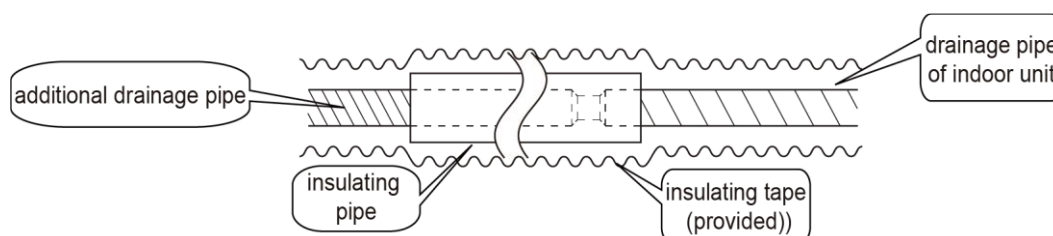

Fig 9.3.1
(1) The drainage pipe should be short and the gradient downwards should be at least 1%~2% in order to drain condensation water smoothly.
(2) The diameter of drainage hose should be bigger or equal to the diameter of drainage pipe joint.
(3) Install drainage pipe according to the following fig and arrange insulation to the drainage pipe (Fig 9.3.1).